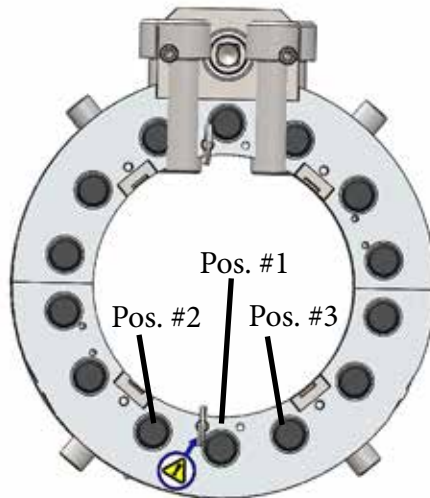

Figure 7-9. Adjust the bearings in the order shown, then work around the machine toward the pinion, alternating side to side. (Models 204-206.)
23. Refer to the Figure 7-9 for your LCSF model, and locate the #1 position eccentric shaft.